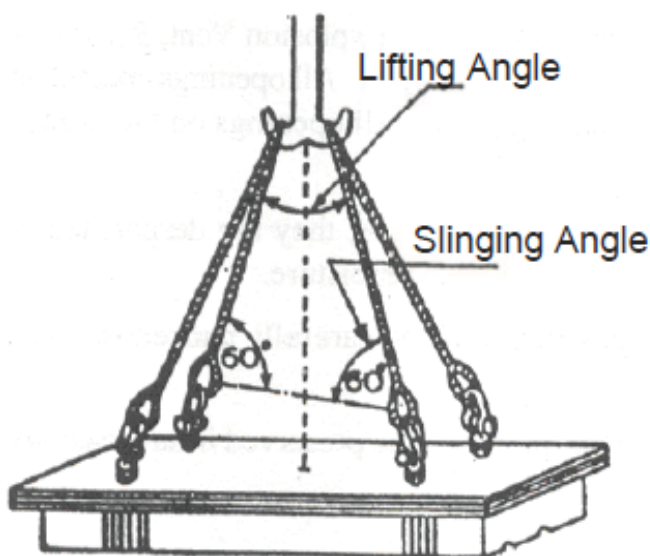

Fig. 2.2
- Safe loads of wire ropes and the multiplying factor to be used corresponding to the lifting angles are shown in Fig. 2.2